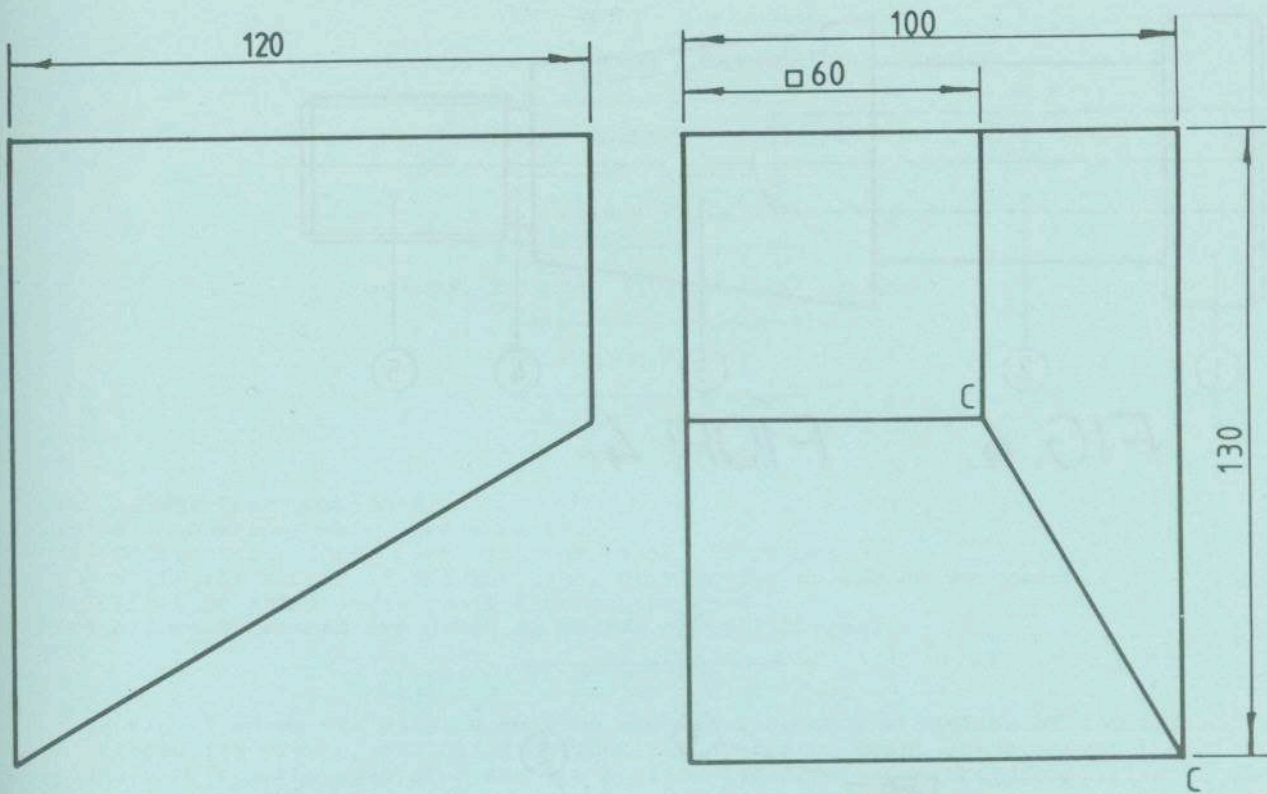

FIG. 2.
2. Figure 2 show two elevations of a sheetmetal transition piece with the joint at C-C.